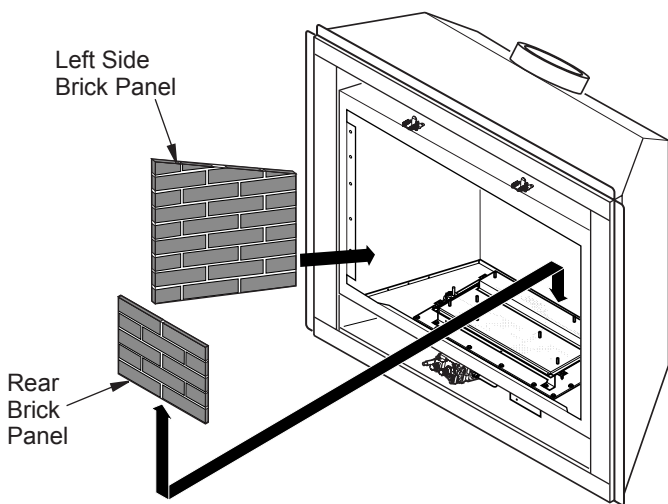

Figure 42 - Installing Rear Brick Panel
5. Install rear brick panel first. Rest bottom edge of panel on back edge of grate (see Figure 42).
6. Install left side brick panel by sliding it between burner assembly and side of fireplace (see Figure 42).